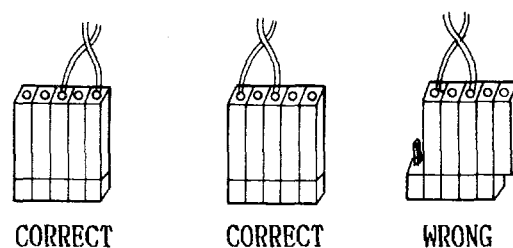

Fig. 2.4 Battery Connection
(6) With the power on, remove the old battery.
(7) Put the new battery in the holder and set the connector. See Fig. 2.4. Battery connection.
(8) With the power on, make sure that blink display of CRT screen or LED1 goes off. If they are still illuminated, it is due to the improper battery connection or defective battery.